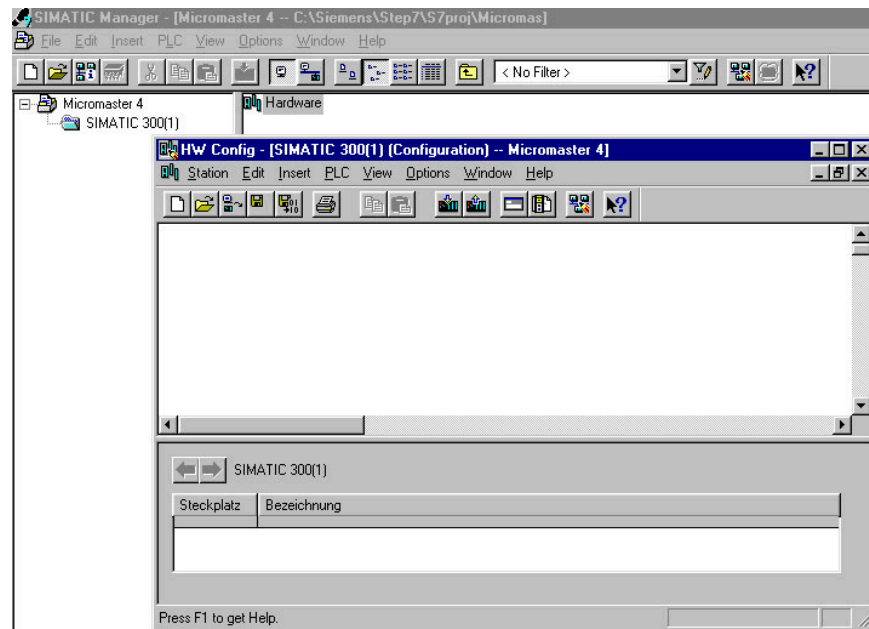

Figure 6-3 Hardware Configuration Window
6. Select the appropriate PLC type. In the example the SIMATIC 300 is selected (see Figure 6-3).
7. Highlight the SIMATIC 300(1) folder and double-click the “Hardware” icon in the Right-hand window (see Figure 6-3). The “HW Config” window is then displayed.